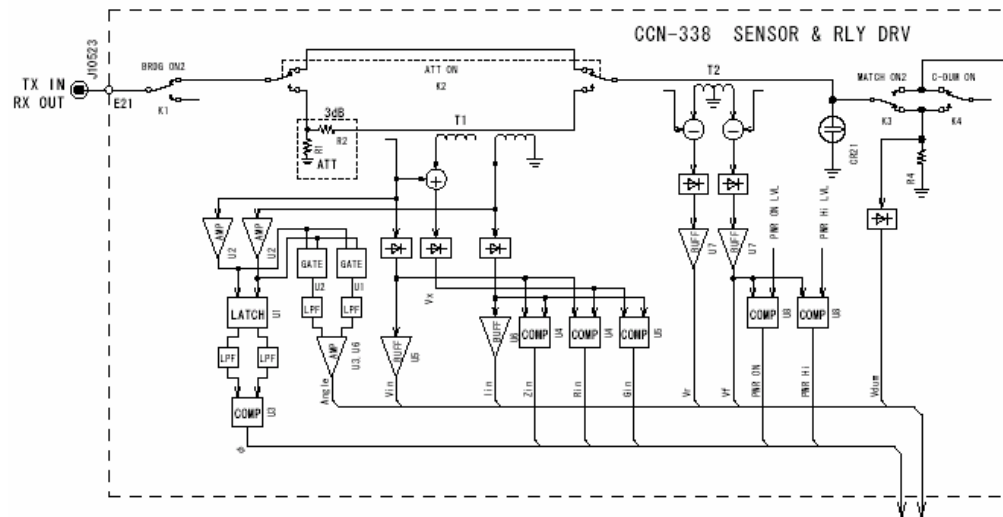

Figure 1.4 Block Diagram of Impedance Sensors
The impedance sensors are divided into magnitude detector, phase detector, angle detector, resistance (R) detector, conductance (G) detector and VSWR detector. Figure 1.4 shows block diagram of the impedance sensors in the CCN-338 SENSOR & RLY DRV.